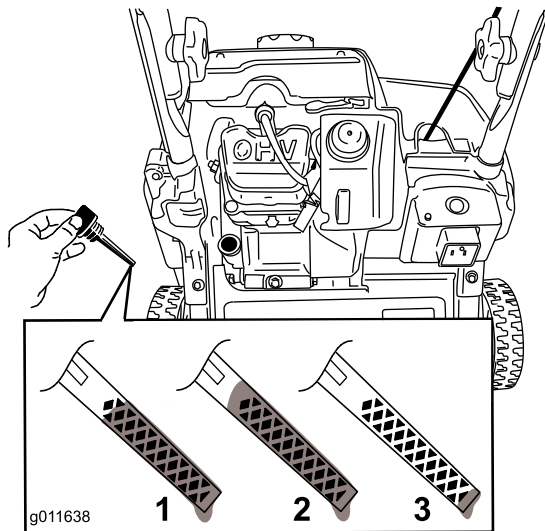

Figure 15
8. To determine the proper oil level on the dipstick, refer to Figure 15.
Note: Fill the engine crankcase with oil until the dipstick indicates that the engine oil level is correct as shown in Figure 15. If you overfill the engine with oil, remove the excess oil as directed in Changing the Engine Oil.